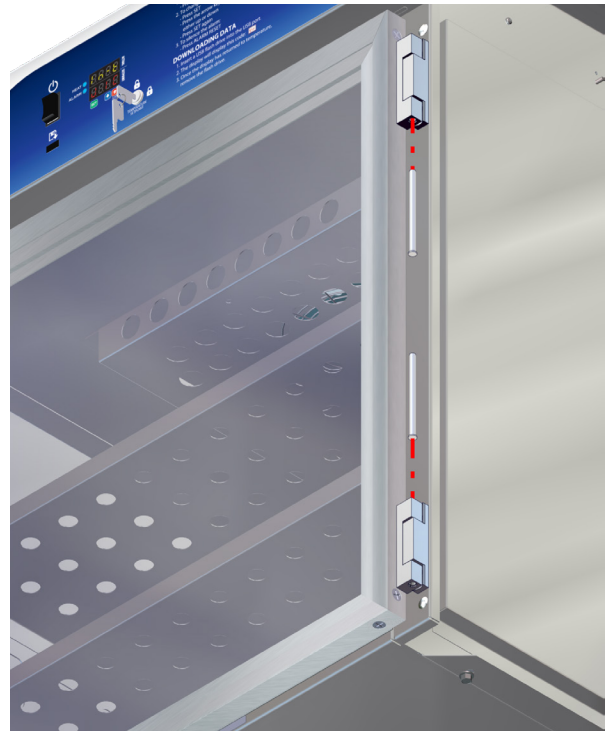

Fig. 166: Remove Door Hinge Pins
1. Using a drift pin (or a small headed screwdriver) and a hammer, detach the glass door from the unit by tapping lightly on the hinge pins, driving them through the two halves of the hinges. Then pull the door away from the unit to remove it (Fig. 166).